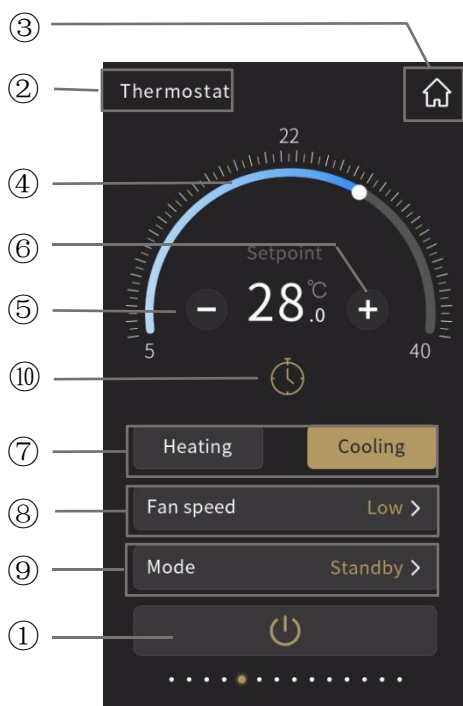
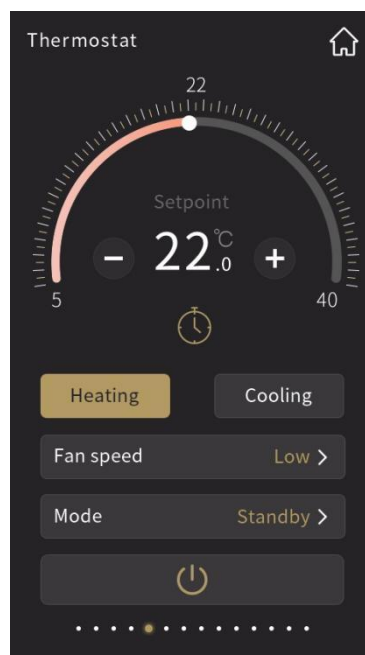

Fig.2.3.1
Fig.2.3.2
The colour of ring slider is to display according to current control mode, display red when heating mode as shown as Fig.2.3.2, display blue when heating mode as shown as Fig.2.3.1.
Fan speed adjustment of RTC set to be disable or enable through parameter configuration. When disable, there would be no fan speed function shown as Fig.2.3.1 on the interface; when enable, fan speed can be adjusted.
Operation mode of RTC set to be disable or enable through parameter configuration. When disable, there would be no mode option as shown as Fig.2.3.1 on the interface; when enable, operation mode can be selected.
⑩ Turn on timer function by touching this icon;
Icon⑩ on indicates timer turn on; icon⑩ off indicates timer turn off. Timer function can be enabled via the parameter configuration. When timer function is disabled, there would be no timer icon as shown as Fig.2.3.1 on the interface; when enabled, timer can be configured.